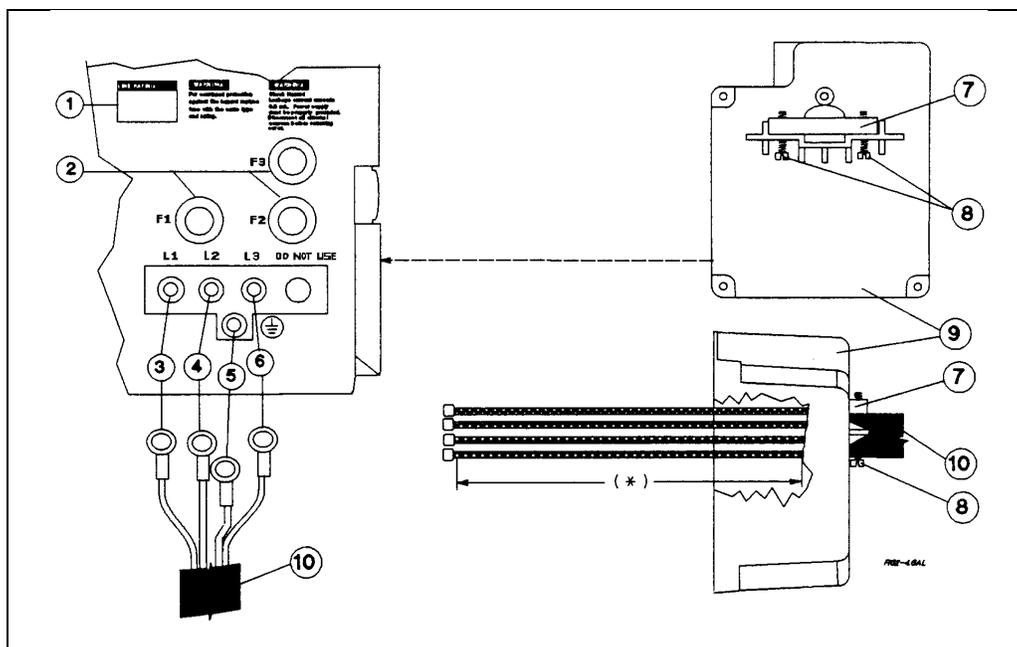

Figure 2-5. Connecting the Series 668xA Power Cord
See Figure 2-5 and proceed as follows:
1. Check the line fuses (②, Figure 2-5) as follows:
- a. Examine the **LINE RATING** label (①) on the rear panel.
- b. Unscrew the line fuse caps (②) from the rear panel and verify that all fuses are as specified on the label. Replace the fuses.
2. Open the line clamp (⑦) and insert the line cord (⑩) through the opening.
3. Position the line cord so that the clamp is near the end of the outside insulating sheath. Tighten the screws (⑧) securing the clamp.
* Phase 1 (③) to L1. Phase 2 (④) to L2. Phase 3 (⑥) to L3.
5. Secure the ground wire (⑤) to the chassis earth ground stud.